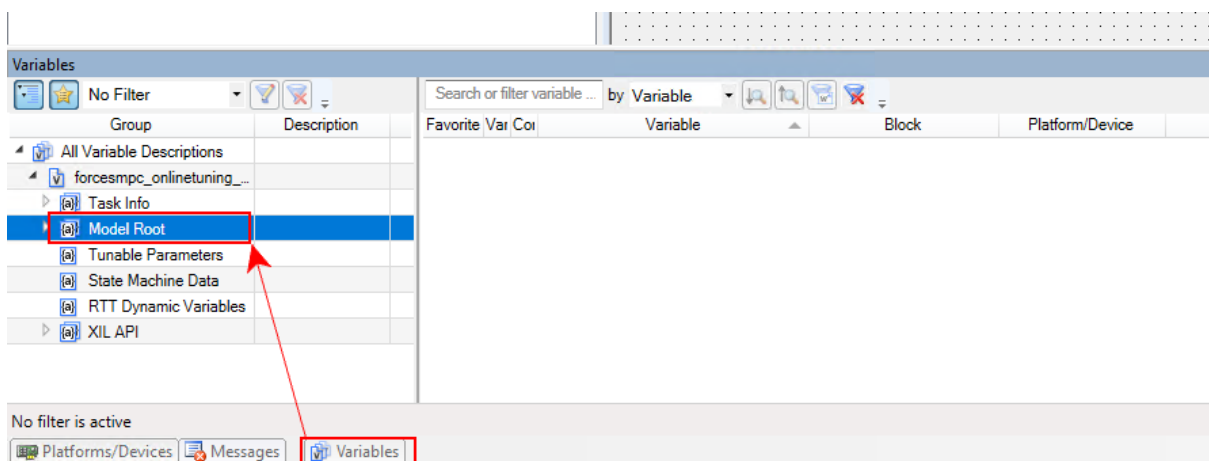

Figure 6.15: Find the model root in the variables tab
- 11) On the project layout select the tab Variables and on the `forcesmpc_onlinetuning_dSpace_MicroAutoBoxII` category expand Model Root (see Figure 6.15).